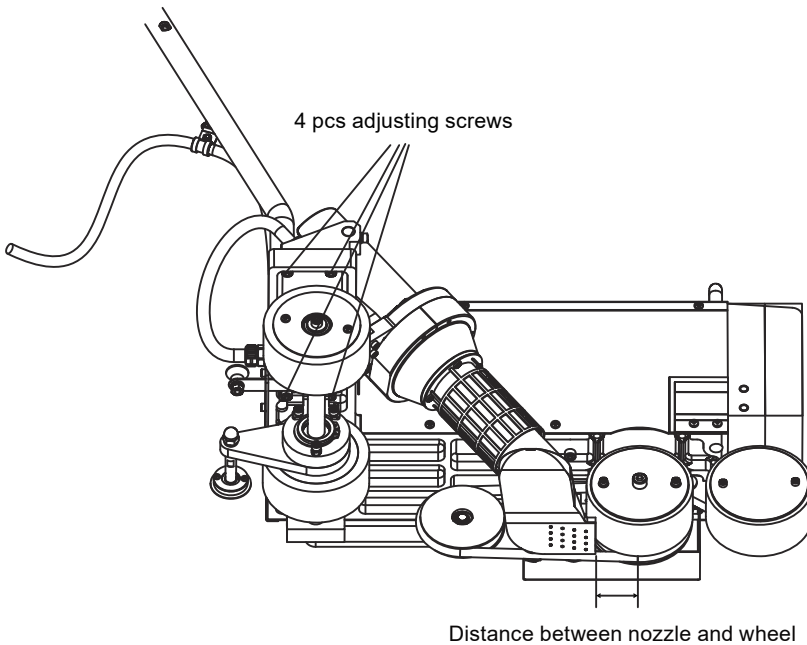

Fig 3
- ◆ Adjust the nozzle position as needed by adjusting the screw, as shown in Figure 3.